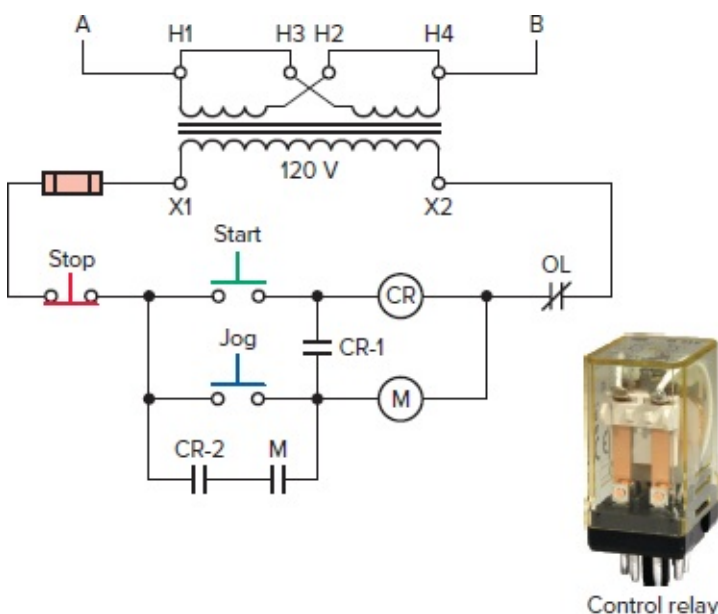

Figure 8-41 Jog circuit with control relay.
The **control relay jogging** circuit shown in Figure 8-41 is much safer than the previous circuit. A single-contact jog push button is used; in addition, the circuit incorporates a jog control relay (CR). The operation of the circuit can be summarized as follows: